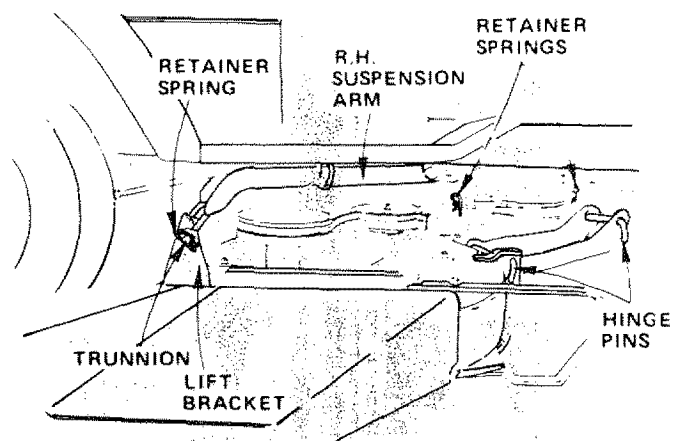

FIGURE 37
- Pull retainer springs out of rear suspension trunnions. Remove rear suspension trunnions from lift brackets (Fig. 37).
- Pull retainer spring out of front hinge pin. Remove front hinge pin (Fig. 37).
NOTE: IF AN ATTACHMENT OTHER THAN THE MOWER DECK IS TO BE MOUNTED ON THE TRACTOR, THE L.H. AND R.H. SUSPENSION ARMS (FIG. 37) SHOULD BE REMOVED FROM TRACTOR.